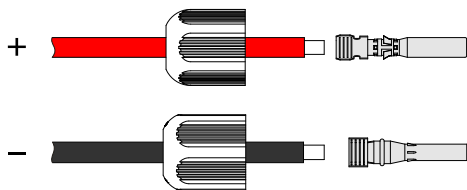

Figure3-36 Crimp the metal terminals
- Step 2 Loosen the lock nuts of the positive and negative connectors, draw the positive and negative wires through the corresponding lock nuts, and crimp the positive wire and negative wire to the positive and negative metal terminals respectively, and then check whether the positive and negative wires are crimped firmly, as shown in Figure3-36.